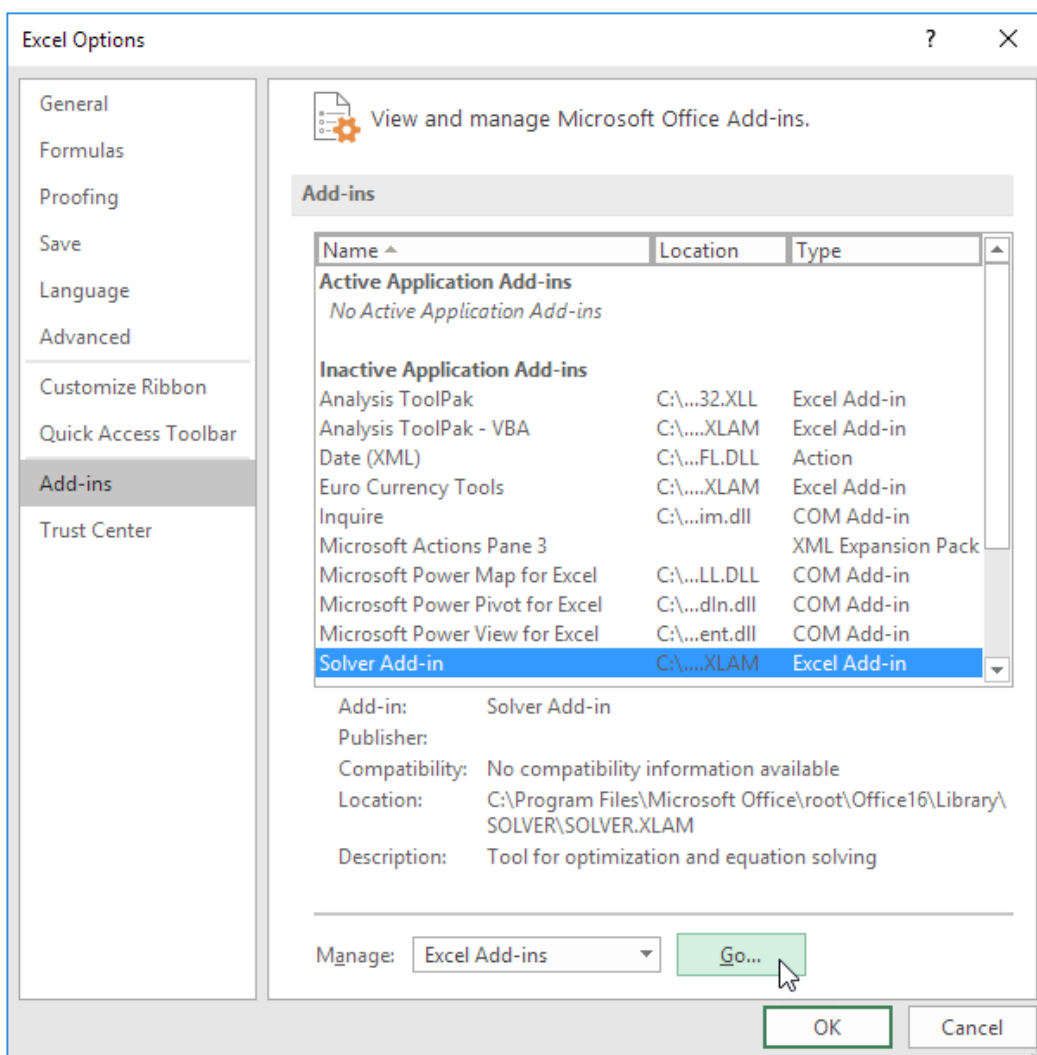

Figure 2. Select the Solver Add-in in the window
2. In the "Add-ins" section, select "Solver Add-in" and click the "Go" button as shown in Figure 2.